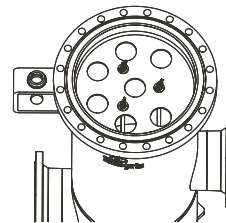

Figure 31.
9. Tighten the wing nuts and washers on the cartridge hold-down plate, Figure 31.